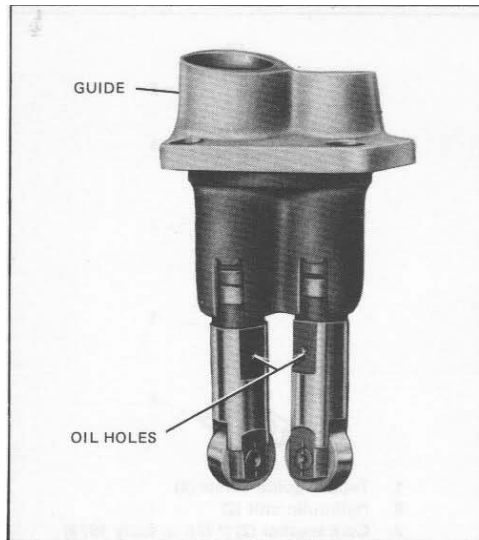

Figure 3-23. Inserting Tappets in Guide
Assemble tappets as follows: Slip tappets (5) into guide (4) so flat surfaces on tappets are toward center of guide as shown in figure 3-23. If flat surfaces with holes are not toward center of guide, engine oil will not feed across and one hydraulic unit cannot fill with oil. Assemble tappet guide gasket dry and insert tappet assembly in place on gearcase, holding tappets in place with thumb and forefinger as when unit was removed.